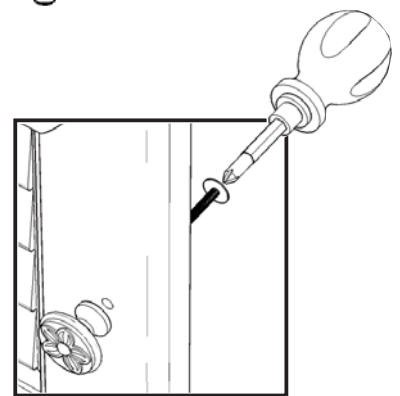

Figure 9
Attach Pull Handles to Doors (U) and (V) with Machine Screws. (see Figure 9)